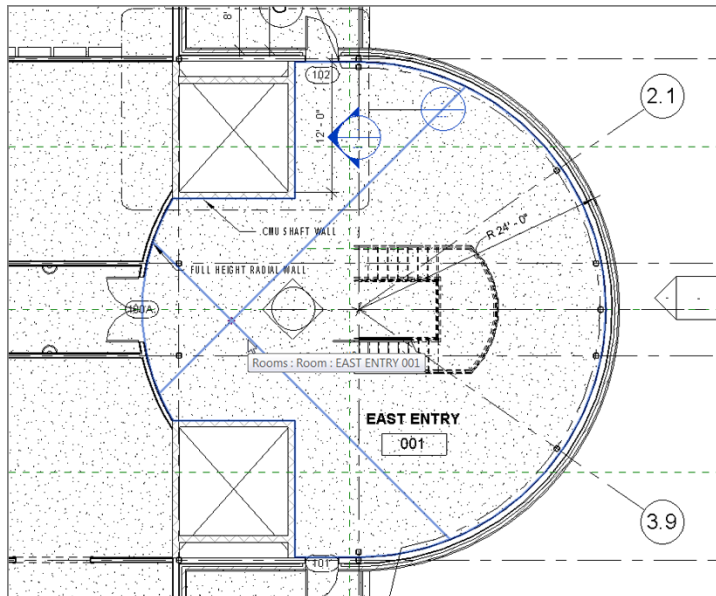

FIGURE 15.10: Selecting the east entry room
1. Zoom in on the east entry area, and select the room, as shown in Figure 15.10.